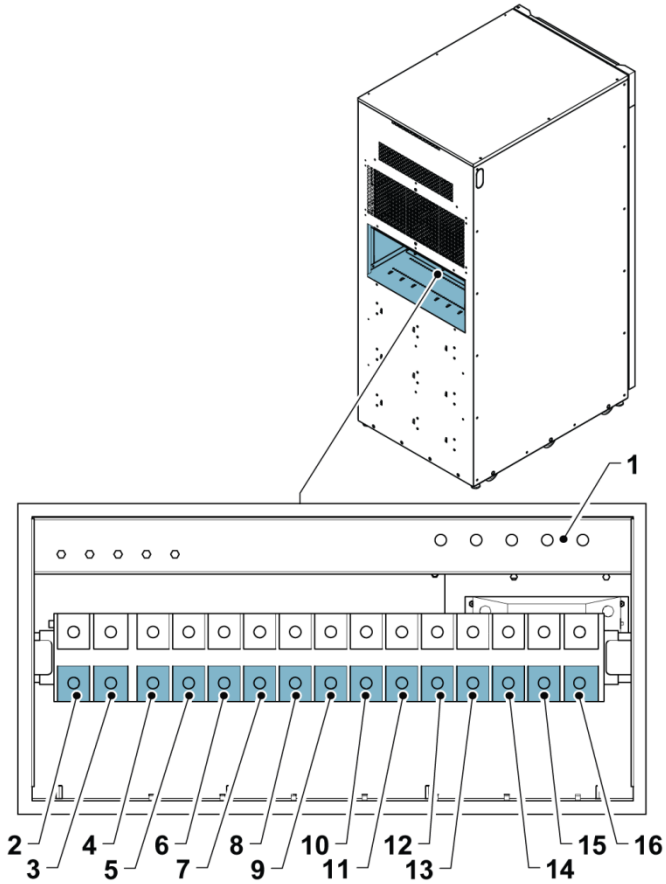
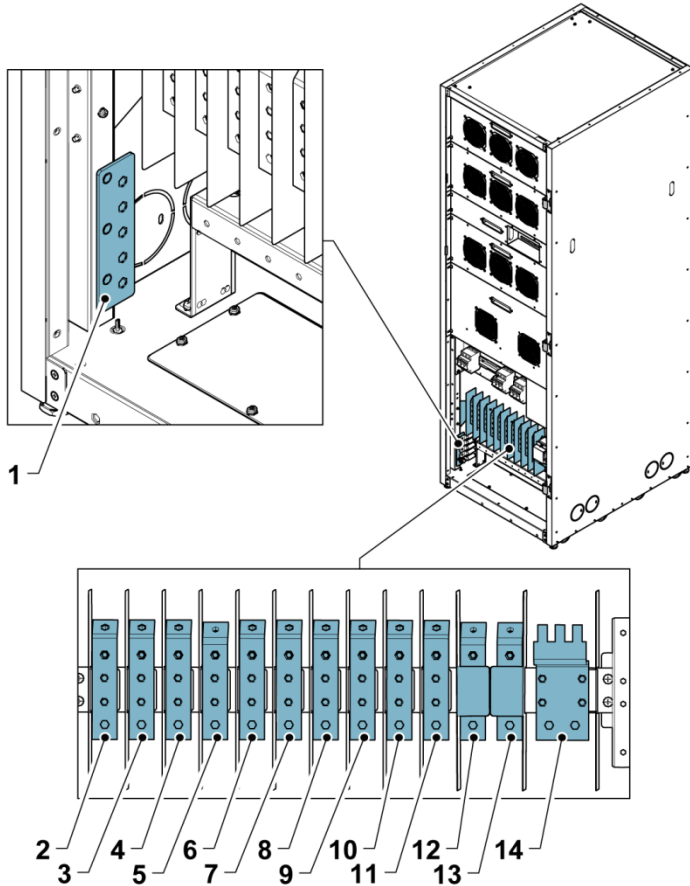

Figure 15. Power terminal locations 20-40 kVA
Figure 16 Power terminal locations 60-80 Kva
2. Route the cables to the UPS terminal blocks in the UPS through the cable entry point at the rear of the UPS cabinet. See Figure 15 and Figure 16 for cable access information and terminal locations.
2. To locate the appropriate terminals and review the cabling and termination requirements, see Section 4.3.3, Table 8, Figure 15 and Figure 16.